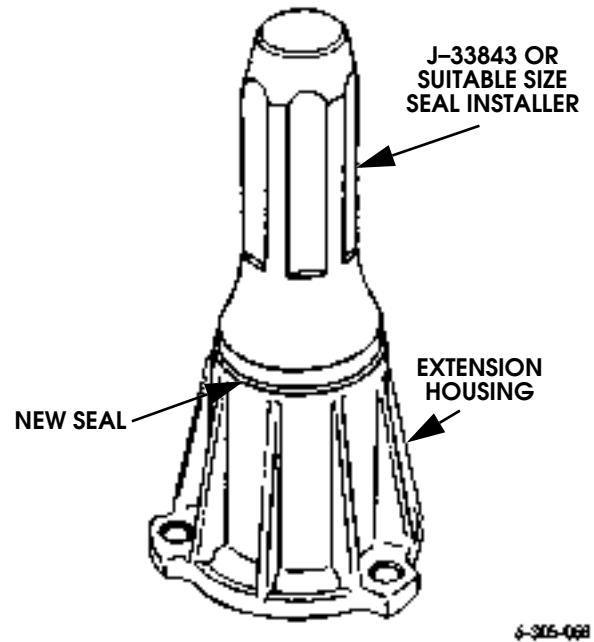

Figure 5-127: Extension Housing Seal Installation
4. Install new seal in housing with J-33843 or suitable size installer tool (Figure 5-127).